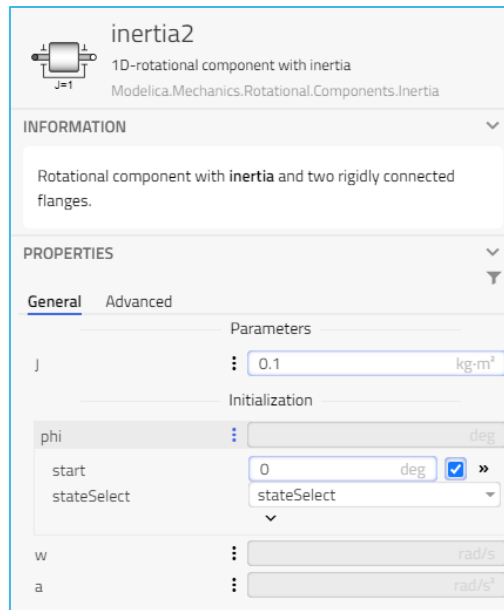

Figure 12 Parameter settings for *inertia2*
- c. Select the **inertia2** component to set its parameters. The parameter sidebar for inertia should look like **Figure 12**.